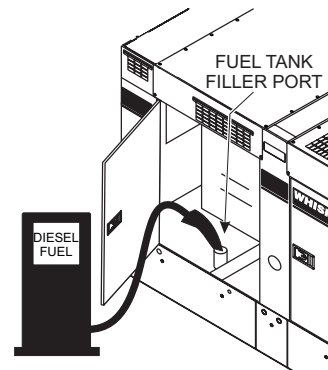

Figure 33. Fueling The Generator
2. Open cabinet doors on the “right side” of the generator (from the generator control panel position). Remove the fuel cap and fill the tank (Figure 33).